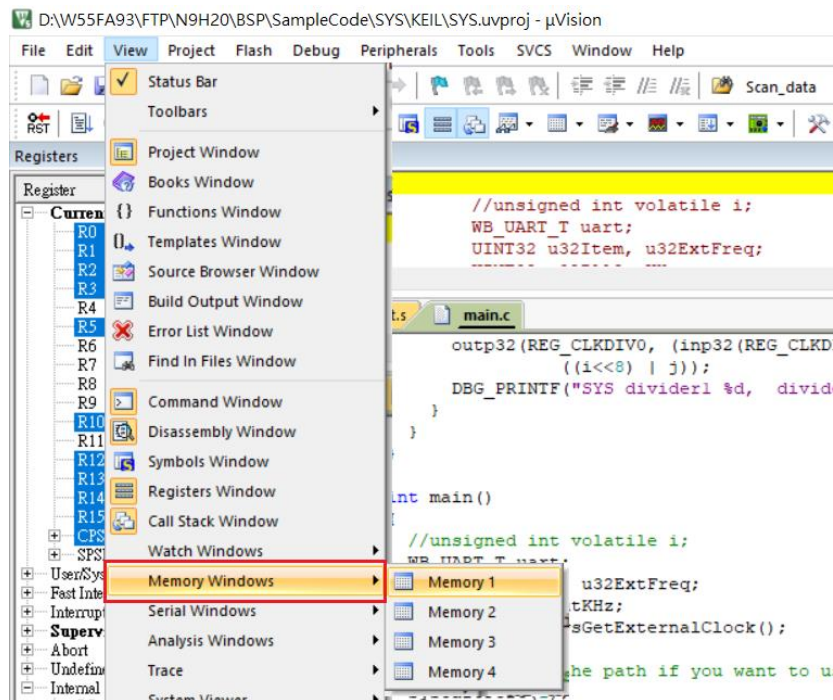
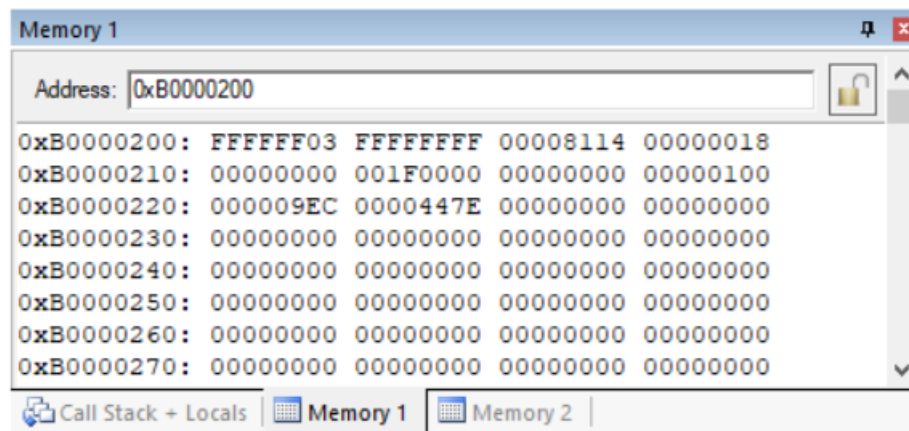

Figure 2-10 Memory Windows
Figure 2-11 Content of Clock Control Registers
3. The **Memory** window shows the contents of the connected target's memory areas and allows the memory to be edited. Several memory windows can be used at a time. For example, the addresses 0xB000200 shows content of clock control registers. Memory window and memory content as shown in Figure 2-10 and Figure 2-11 respectively.